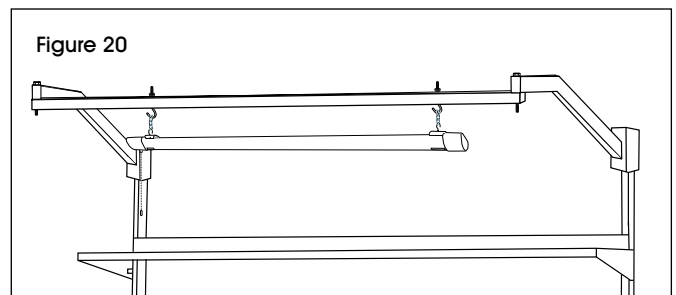

Figure 20
5. Attach hanging chains to LED shop light (8) and mount to "S" hooks. (See Figure 20)